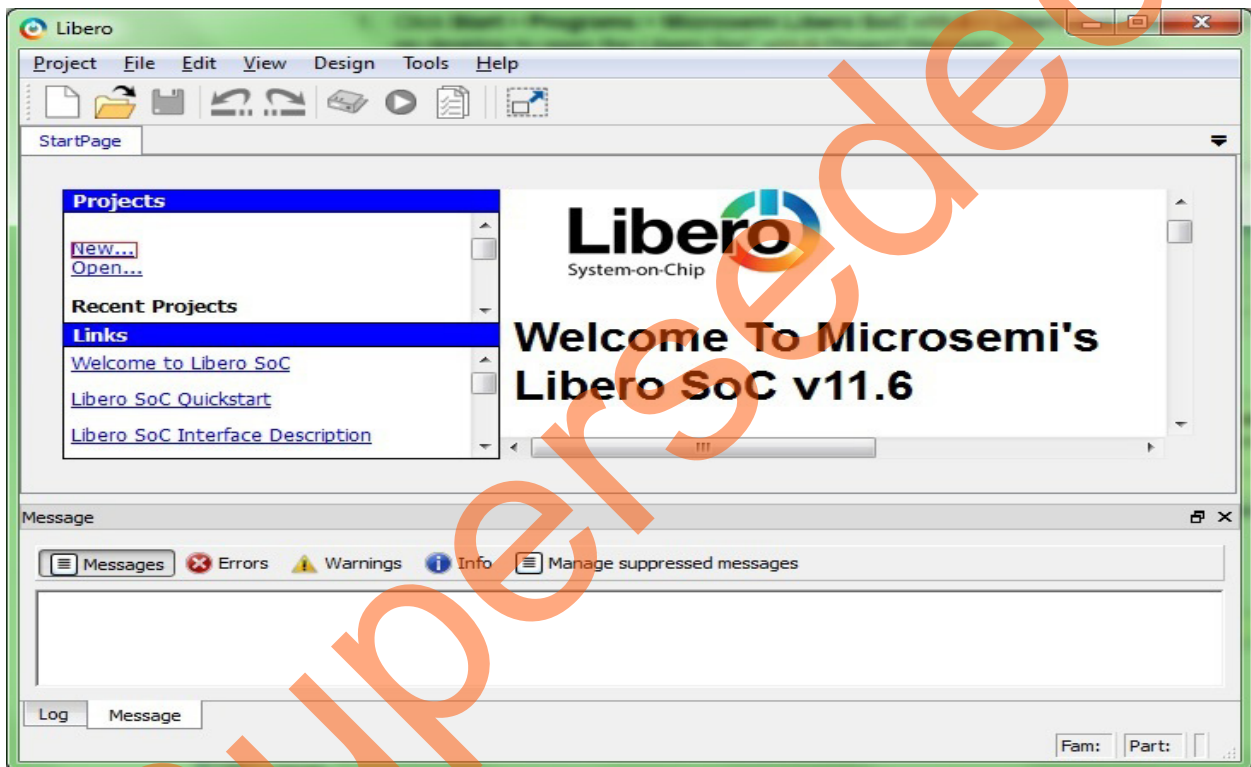

Figure 2 • Libero SoC Project Manager
- Select **New** on the **Start Page** tab as shown in Figure 2.